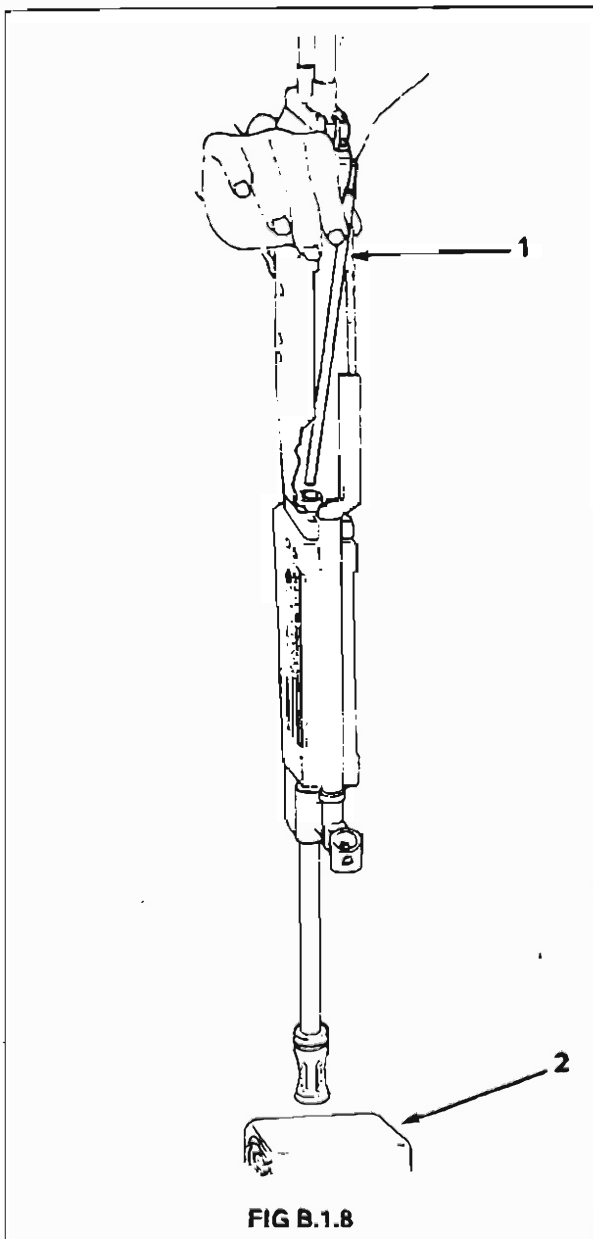

FIG B.1.8
10. The barrel straightness check can be carried out by inserting the straightness $\text{\O} 5.533$ mm gauge from either end of the barrel. The barrel must be in a vertical position and the gauge must pass through the barrel under its own weight. If the gauge is inserted at the chamber end, the muzzle end of the barrel must be positioned over a piece of wood or soft material to prevent the gauge from being damaged on its exit from the barrel. See Fig. B.1-8.